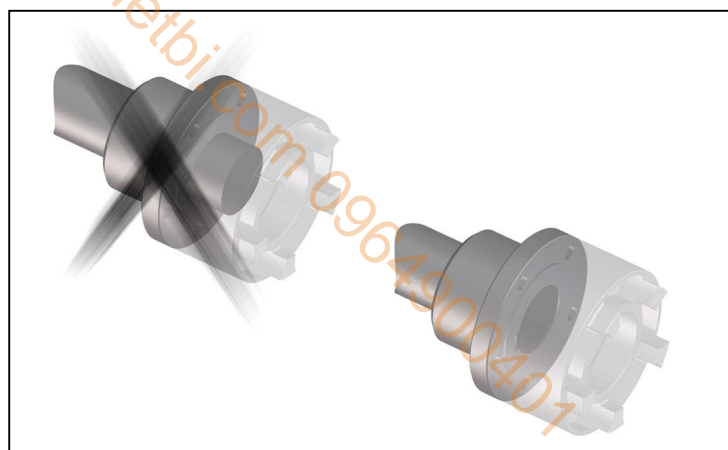

Fig. 4
- Mount the hubs so that the shaft ends are flush with the interior borehole openings (Figure 4). Overlapping shaft ends prevent the radial installation and de-installation of the reduction sleeve. Pay attention to possible differing agreements!